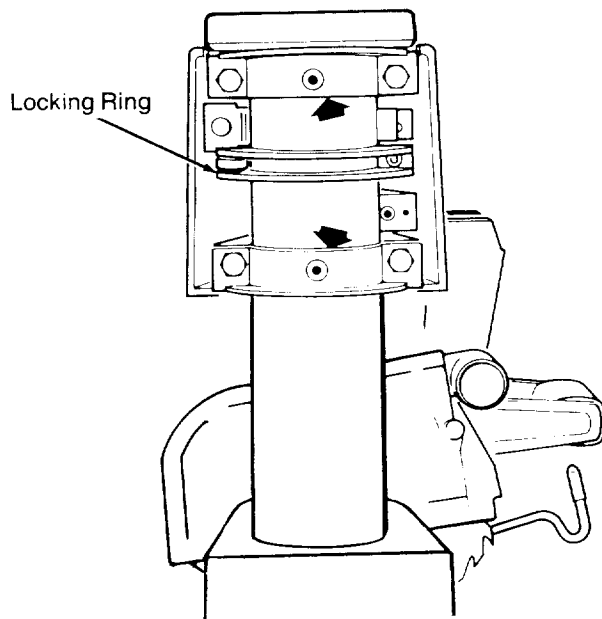

Fig. 123 - Bearing Points Where Arm Attaches to Column Tube
- Lubricate the bearing points where the *arm* attaches to the *column tube*. With a #2 Phillips screwdriver remove two screws and the rear arm cover for access to these points. Be careful not to get lubricant on the *locking rings* as this will adversely affect the miter locking function. (Figure 123)